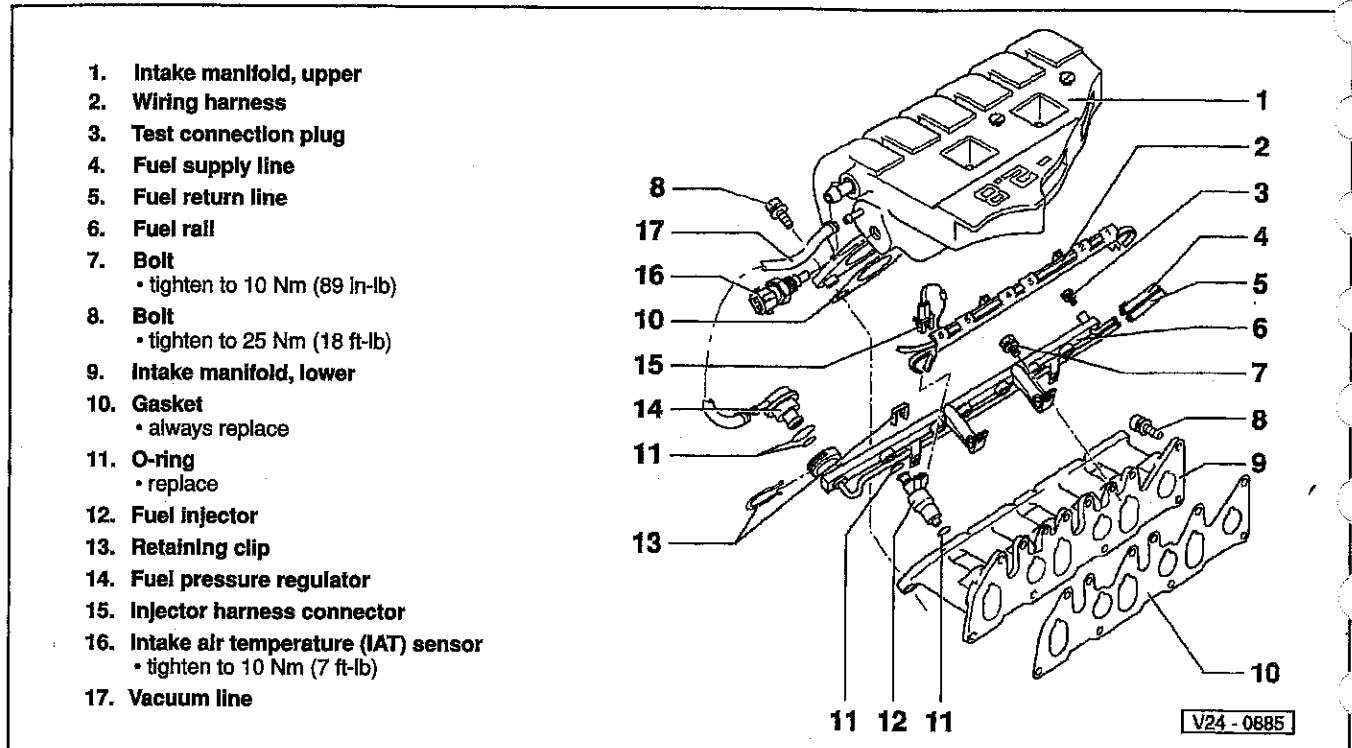

Fig. 28. Fuel rail assembly on 6-cylinder engine.
3. Disconnect the fuel supply and return hoses from the fuel rail. See Fig. 28.